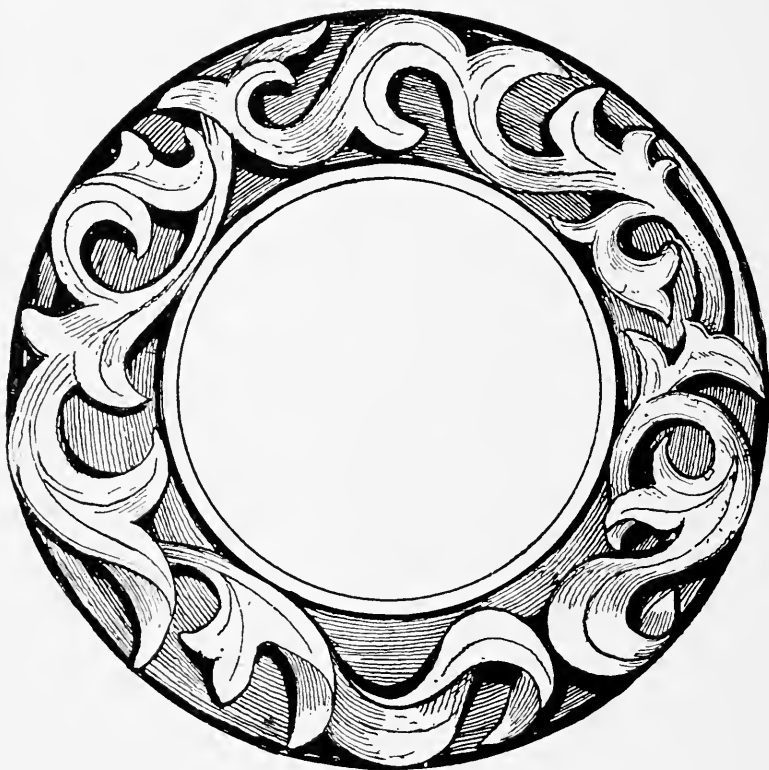

Fig. 81. RING-BOX, WREATH, OR BREAD PLATTER.
*Wreaths.* Carved circles or rings of wood, which form beautiful ornaments, especially when hung up at intervals. They may be used for picture-frames, Fig. 81.